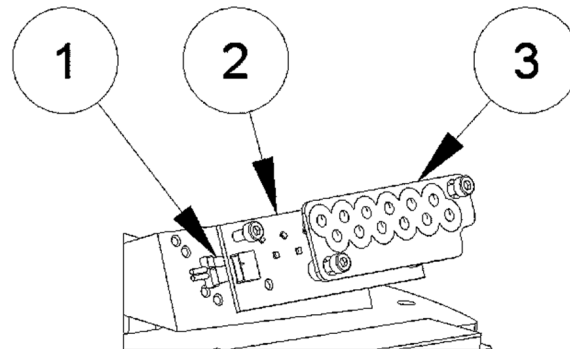

Figure 21 – LED Module Replacement
- disconnect the power supply connector from the LED module (Figure 21 – n°1)
- remove the LED module (Figure 21 – n°2) and the relevant lens array (Figure 21 – n°3) from the mounting plate
- reconnect the power supply connector (Figure 21 – n°1) to the LED module